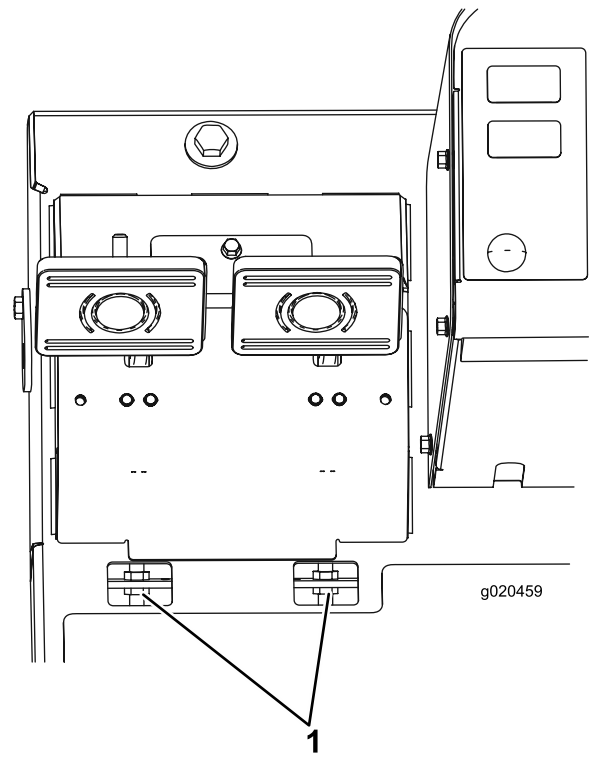

Figure 97
- B. Loosen the front nut on the threaded end of the brake cable (Figure 97).